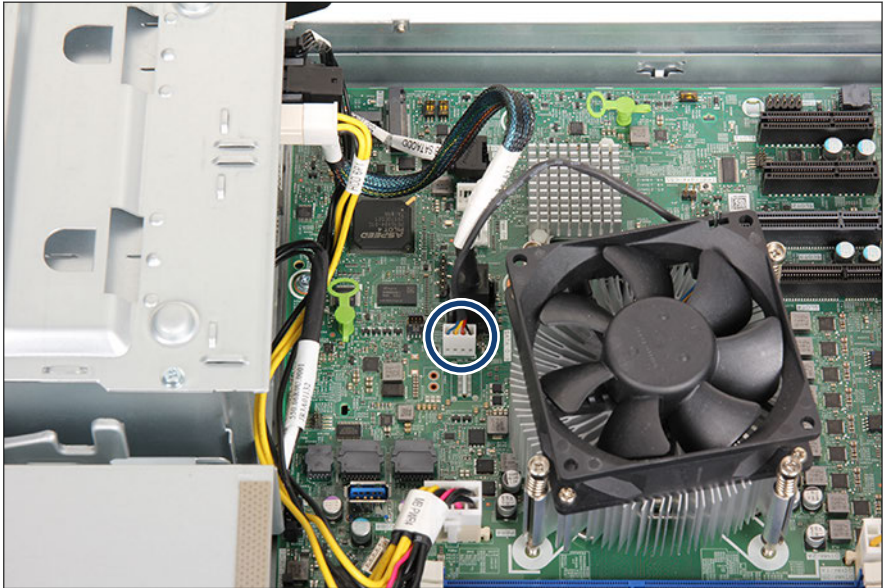

Figure 145: Disconnecting the CPU fan cable
- ▶ Disconnect the CPU fan cable from the connector "FAN CPU" on the system board, see Figure 145.